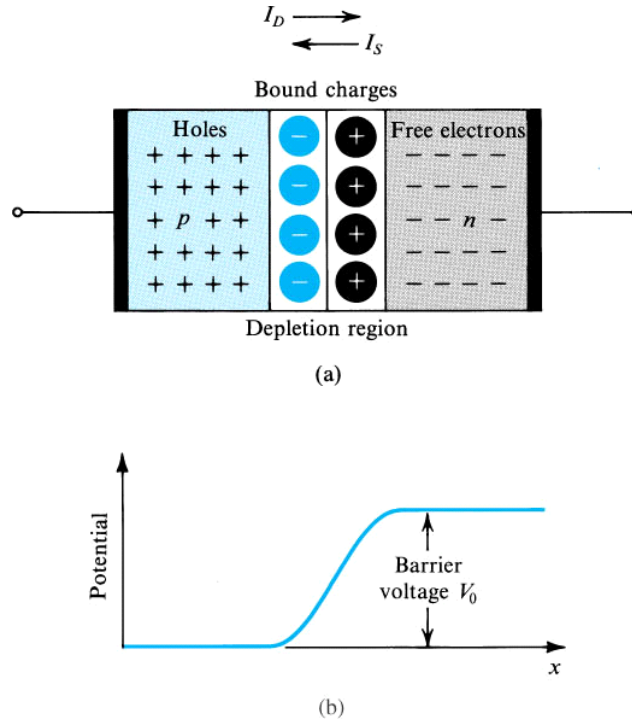

Figure 5.2: (a) The pn junction with no applied voltage (open-circuited terminals). (b) The potential distribution along an axis perpendicular to the junction.
- Figure 5.2 shows the pn junction with open circuit.